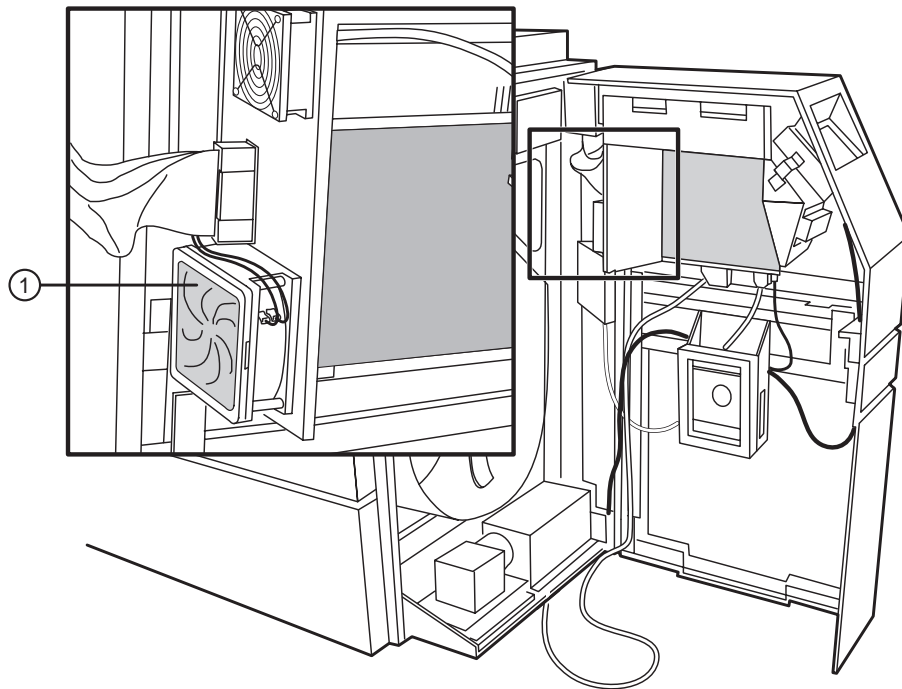

Figure 4-26 Intake fan location.
2. Remove the screw securing the wire clamp on the top left corner of the intake fan assembly (below the exhaust fan). Refer to Figure 4-26.